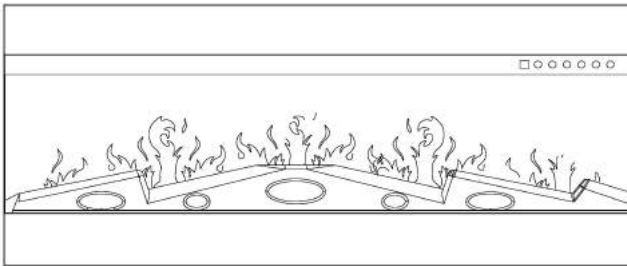

Figure 1
- B. If your fireplace come with log-set, take the log-set out of the package and put it to the fireplace media slot . **Figure 1**.